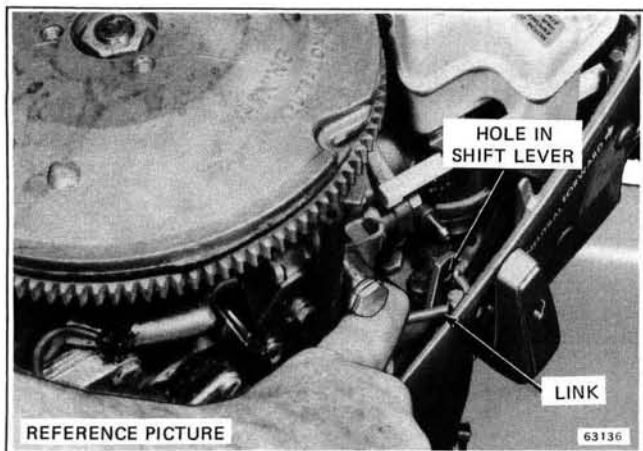

Figure 6-65. Adjusting Link
2. Remove cotter pin and washer from shift lever to link. See Figures 6-65 and 6-66, hub assembly.
4. Adjust link to align with hole in shift lever. See Figures 6-65 and 6-66.